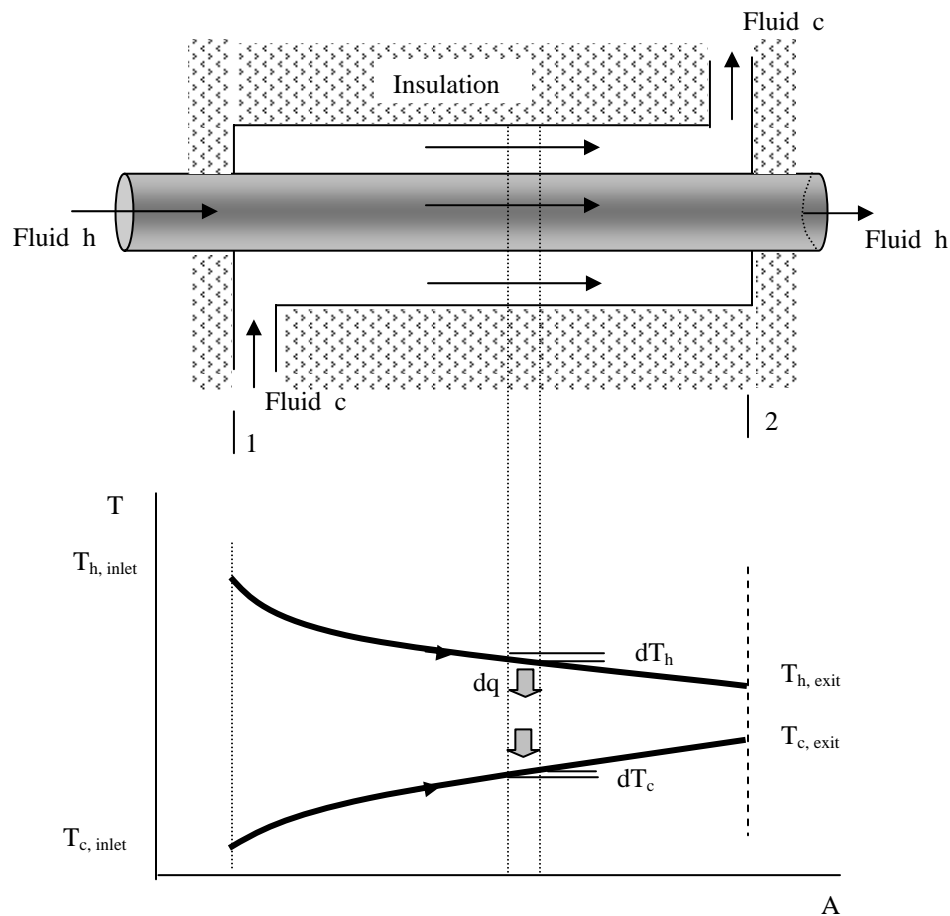

Figure 1. A co-current (or parallel) heat exchanger
Let us consider a tubular heat exchanger as shown in Figure 1. A fluid "h" enters the heat exchanger at location "1" and flows through the inner pipe and exits at location "2". Its temperature changes from $T_{h, \text{inlet}}$ to $T_{h, \text{exit}}$. The second fluid "c" enters the annular space between the outer and the inner pipe of the tubular heat exchanger at location 1 and exits at location 2. Its temperature changes from T_{c1} to T_{c2} . The outside of the heat exchanger is insulated. Because the heat transfer occurs only between fluids "h" and "c", the decrease in the heat energy of fluid "h" must equal the increase in that of fluid "c". Therefore, from an energy balance, the rate of heat transfer between the fluids is:
Consider a thin slice of the heat exchanger as shown in Figure 1. We want to determine the rate of heat transfer from fluid "h" to "c", perpendicular to the direction of the fluid streams. For this thin slice of the heat exchanger, the rate of heat transfer, dq , from fluid "h" to fluid "c" may be expressed as:
Where ΔT is the temperature difference between fluid "h" and fluid "c". Note that this temperature difference, ΔT , varies from side 1 to side 2 of the heat exchanger. At the inlet of the fluid stream "h", the temperature gradient ΔT is $T_{h,inlet} - T_{c,inlet}$ and on side 2, it is $T_{h,exit} - T_{c,exit}$ (see Figure 1). To solve Eqn (3) we need some average value of ΔT that represents the temperature gradient, perpendicular to the direction of flow. Although it may be tempting to take an arithmetic average of the two ΔT values, at locations (1) and (2), the arithmetic average value will be incorrect, because as seen in the Fig (1), the temperature plots are non linear. Therefore, we develop the following mathematical analysis to determine a value of ΔT that will correctly describe the "average" temperature difference between the fluids "h" and "c" as they flow through the heat exchanger.